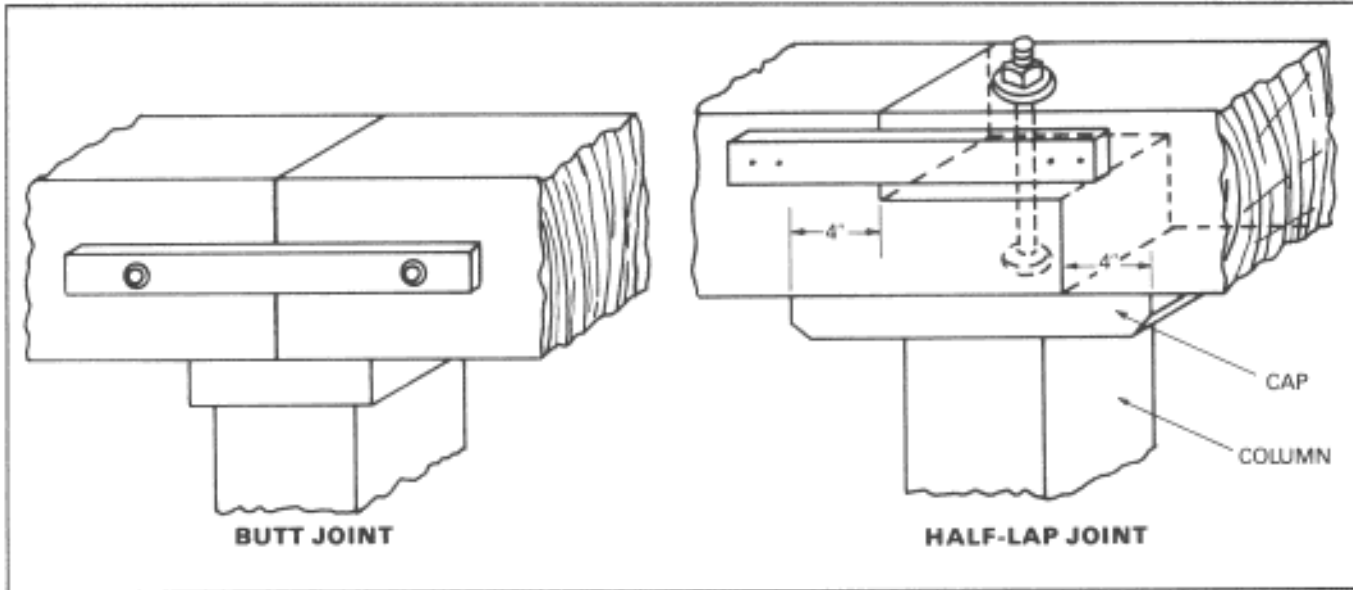

Figure 6-14. Butt and half-lap joints
To splice solid beams, use half-lap joints or butt joints (Figure 6-14.) See Splices on page 6-6.
**Half-Lap.** Sometimes a half-lap joint is used to join solid beams (Figure 6-14). This is done by performing the following steps:
- Step 2.* Lay out the lines for the half-lap joint as shown in Figure 6-14.
**Butt Joints.** When a strapped *butt joint* is used to join solid beams (Figure 6-14, page 6-13), the ends of the beams should be cut square. The straps, which are generally 18 inches long, are bolted to each side of the beams.